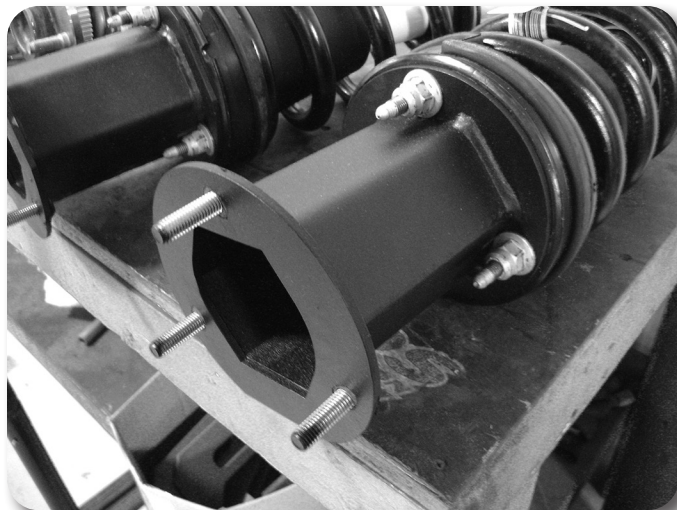

Figure 40
59. Using a jack, set the ride height from the fender lip to the center of the hub at 28-1/4" (6" or 4" Trail BOSS/ AT4 Kits) and tighten the control arm hardware to 89 ft-lbs with the first pass and a final pass of 45-60 degrees (Fig. 40). This will ensure the rubber bushings are tightened to the right position and not put preload in the rubber bushings.
60. Install the provided strut spacers on the strut with the provided 10mm prevailing torque nuts and washers. The spacers will only install one way Fig. 40. Torque hardware to 30 ft-lbs.